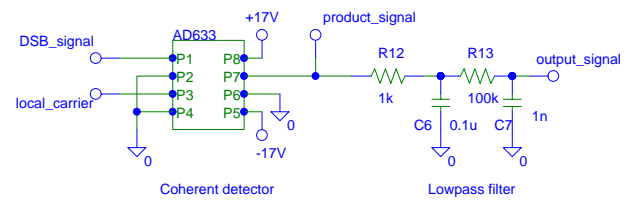

Fig. 4 Test circuit to observe the effect of a frequency offset
2. Keeping the power supply off, assemble the circuit of Fig. 4. Use FG1 as the received DSB signal and FG2 as the local carrier signal. In FG2 set Amplitude = 10 V, frequency = 20 kHz, sine wave.